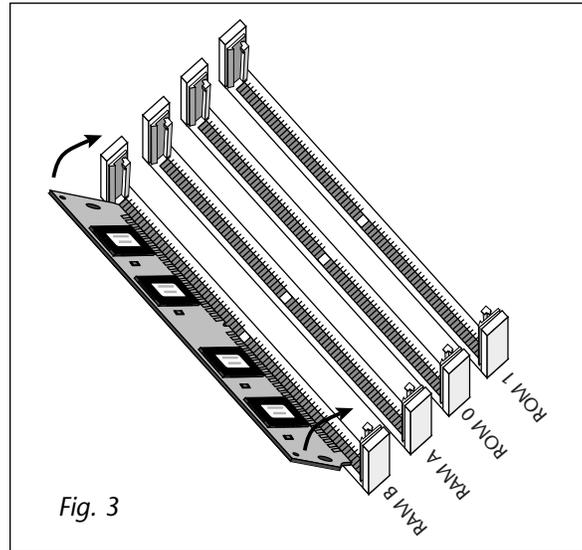

Fig. 3
7. While applying a slight downward pressure on the top of the SIMM to keep it from popping out of the socket, tilt the SIMM board into a vertical position as shown in figure 3. You should hear an audible click. Make sure both sides of the silver tabs have latched.